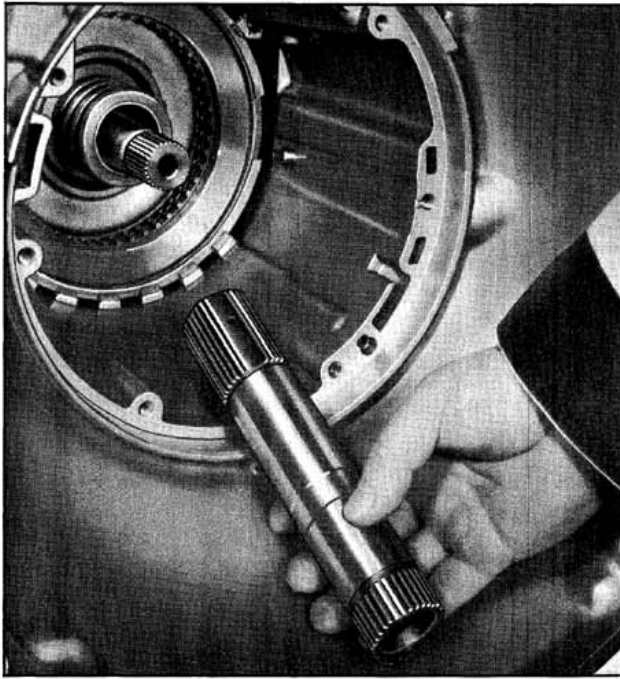

Fig. 6-68 Removing Sun Gear Shaft
9. Remove the sun gear shaft. (Fig. 6-68)